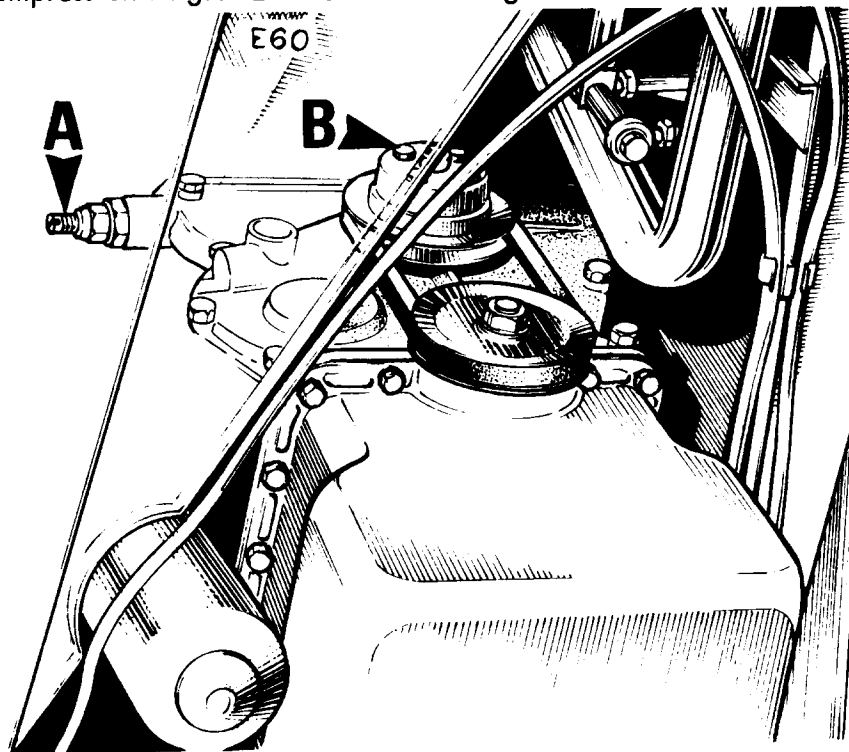

Fig. 12. A - Timing chain tensioner.
1. From beneath the car, release the bolts ('B' of Fig. 12) securing the water pump pulley to its mounting flange.